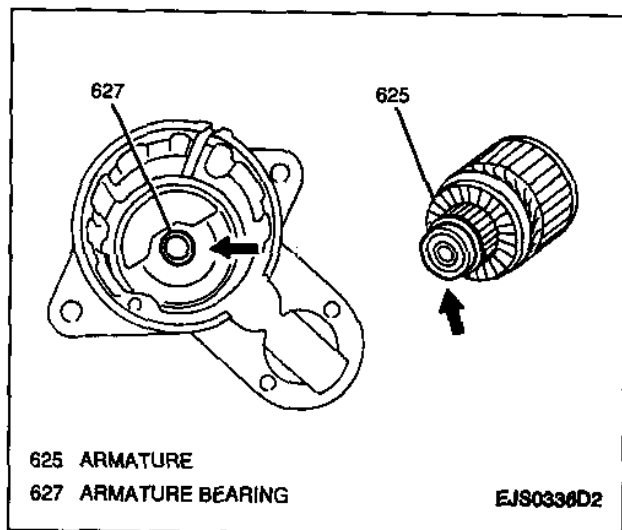

Figure 33—Inspecting Armature Bushing and Bearing
4. Armature bushing and bearing for wear and damage; replace as necessary (Figure 33).